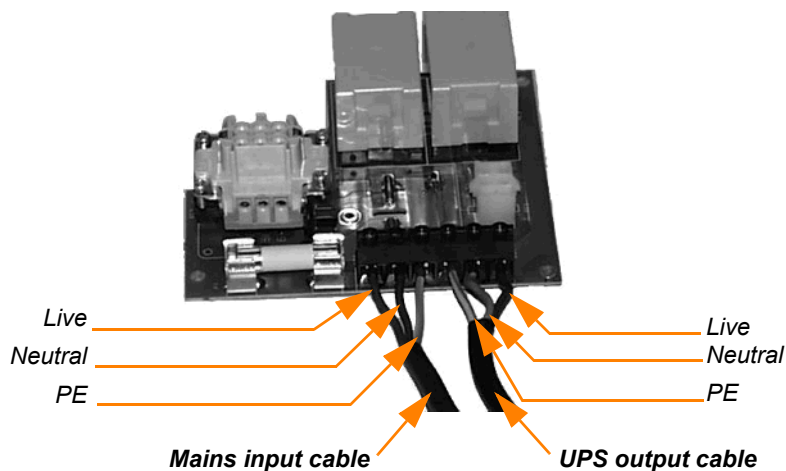
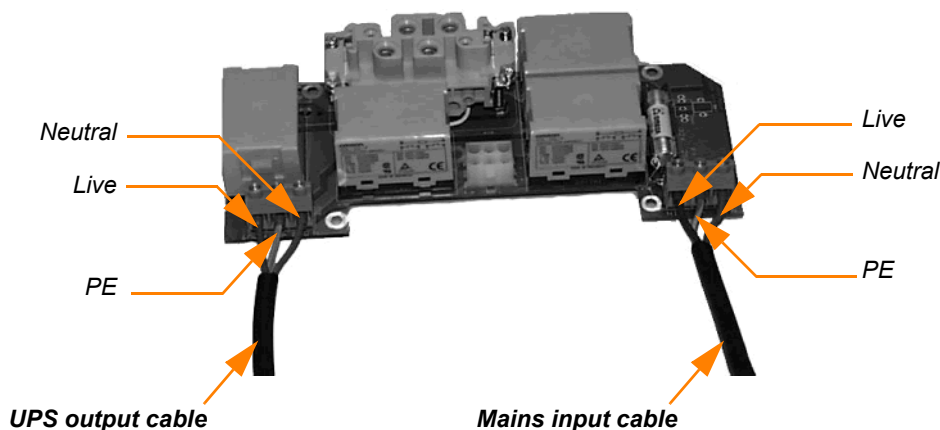

Figure 7.3 Maintenance bypass connector (MINIpower 5000)
Figure 7.4 Maintenance bypass connector (MINIpower 10000)
5. Feed the input/output power cables removed from the standard connector (above) through the cable glands in the new connector's cover – observe the connection details in Figure 7.3 or Figure 7.4 to determine the correct orientation.
6. Connect the input and output cables to the replacement Maintenance Bypass Connector as shown in Figure 7.3 or Figure 7.4. – take care to ensure the cables are connected to the correct terminal blocks.